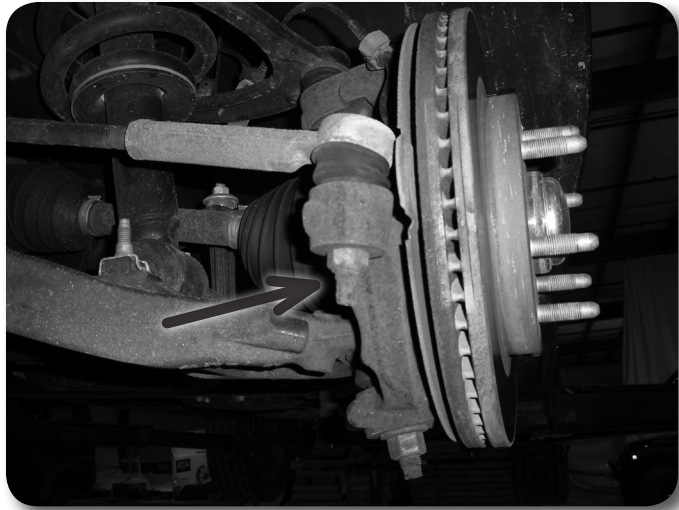

Figure 3
5. Remove the nut from the steering tie rod end. **Figure 3** Thread the nut back on a couple of turns by hand. Strike the knuckle near the tie rod end to dislodge the rod end taper from the knuckle. Remove the nut and the tie rod end from the knuckle. Save nut.